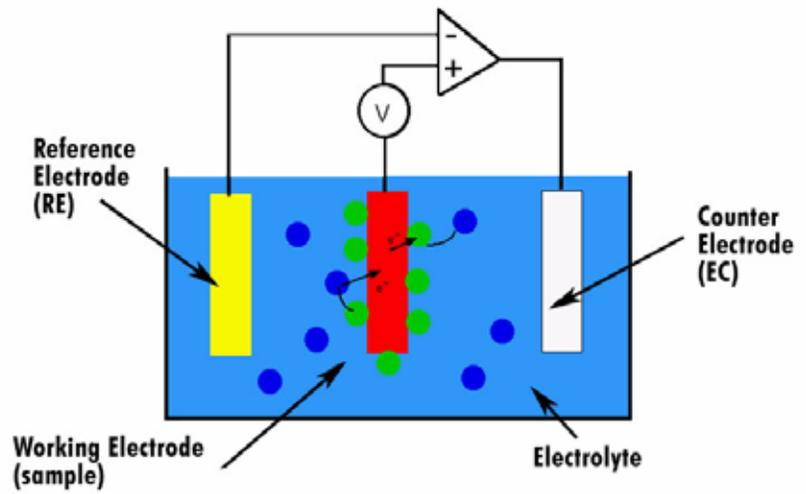
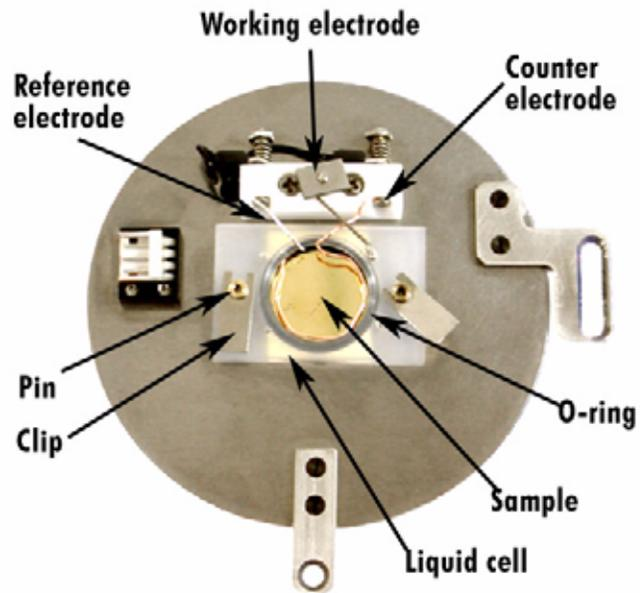

Figure 143 Electrochemistry experiment schematic
Figure 144 Electrochemistry experimental setup using liquid cell
Figure 143 shows a typical electrochemistry setup, while Figure 144 shows that same setup created with the 5500 SPM liquid cell. Note that electrochemistry experiments can be conducted using either AFM Modes or STM Mode.
The liquid cell, described earlier in this manual, enables imaging in a liquid (Figure 143). The cell is 15 mm in diameter and seals over the sample with an o-ring. The sample surface must be very flat and larger than the diameter of the cell to avoid leakage.
It is recommended that the assembly procedure be carried out in a laminar flow hood, glove box or other clean environment. The work surface should be well cleaned prior to assembling, and gloves should be worn to prevent contaminating the electrodes and liquid cell. Refer to Figure 144 for a view of the components described below.
- 8 Insert the counter and reference electrodes into the sample plate block (Figure 144). Push the spring-loaded clamp forward from behind, insert the electrode and release the clamp.